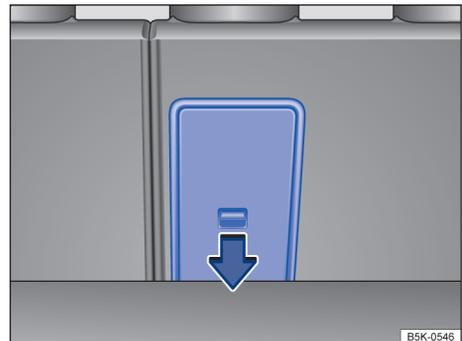

Fig. 148 In the luggage compartment: Opening the pass-through.
- **OR:** Open the pass-through from the luggage compartment. Press the release lever → fig. 148 in the direction of the arrow and push the cover forward.